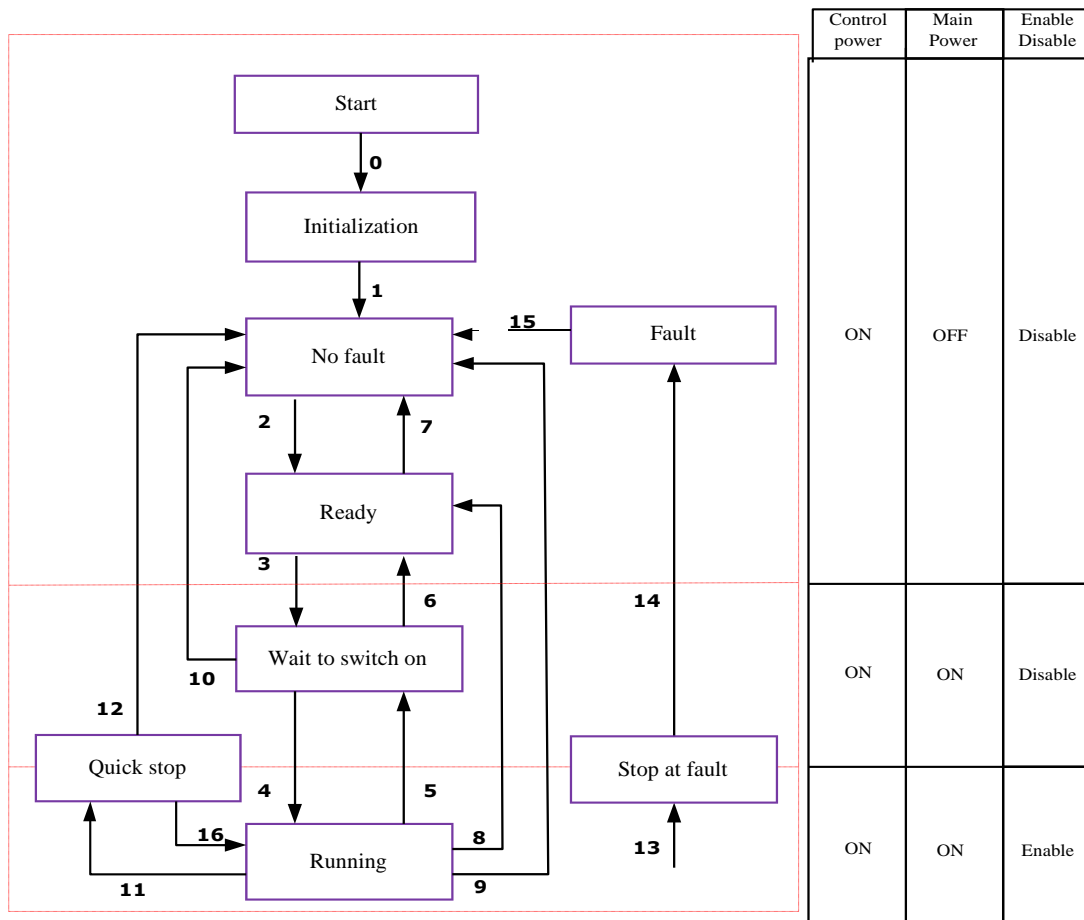

Figure 6.1 2ELD2-CAN 402 State Machine switchover diagram
*1) The state machine switch corresponds to figure 6.1